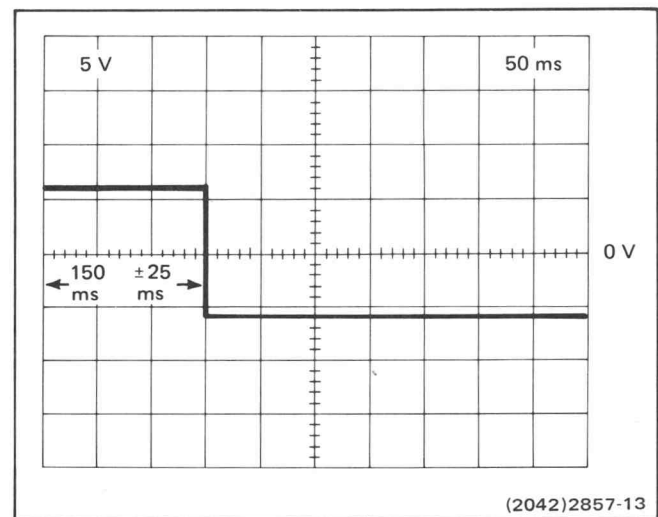

Figure 4-5. QRS width.
b. **CHECK**—Pulse duration at TP388 (ECG board) is 150 ms, ± 25 ms (see Fig. 4-5).